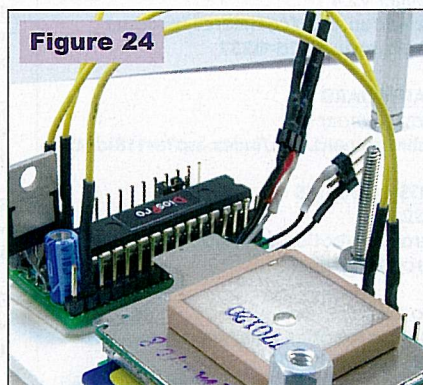

Figure 24
- **STEP 14:** Take a single 5" jumper and connect it to the VCC pin (marked +) on the carrier and the VCC lead on the memory board (pin 3) as shown in Figure 24.